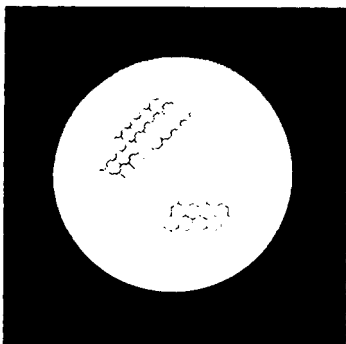

Figure 2-7. Chicken Wire.
h. Chicken wire. An irregular pattern of dark thin lines in the field of view either throughout the image area or in parts of the image area (fig. 2-7). Under the worse case condition, these lines will form hexagonal or square-wave shaped lines. No action is required if this condition is present unless the chicken wire interferes with viewing the image and interferes with the ability to perform the mission. In that case, return the NVG to the maintainer.